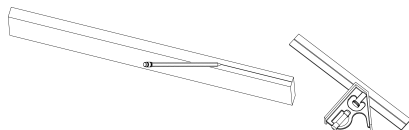

FIG. 8
1. Begin by scribing a centerline on your work piece. This will indicate where your mortise(s) will be positioned. \*\*Once you set your Pocket Mill Pro, continuous cuts will be the same until you re-adjust the mounting plate. (See Figure 8)